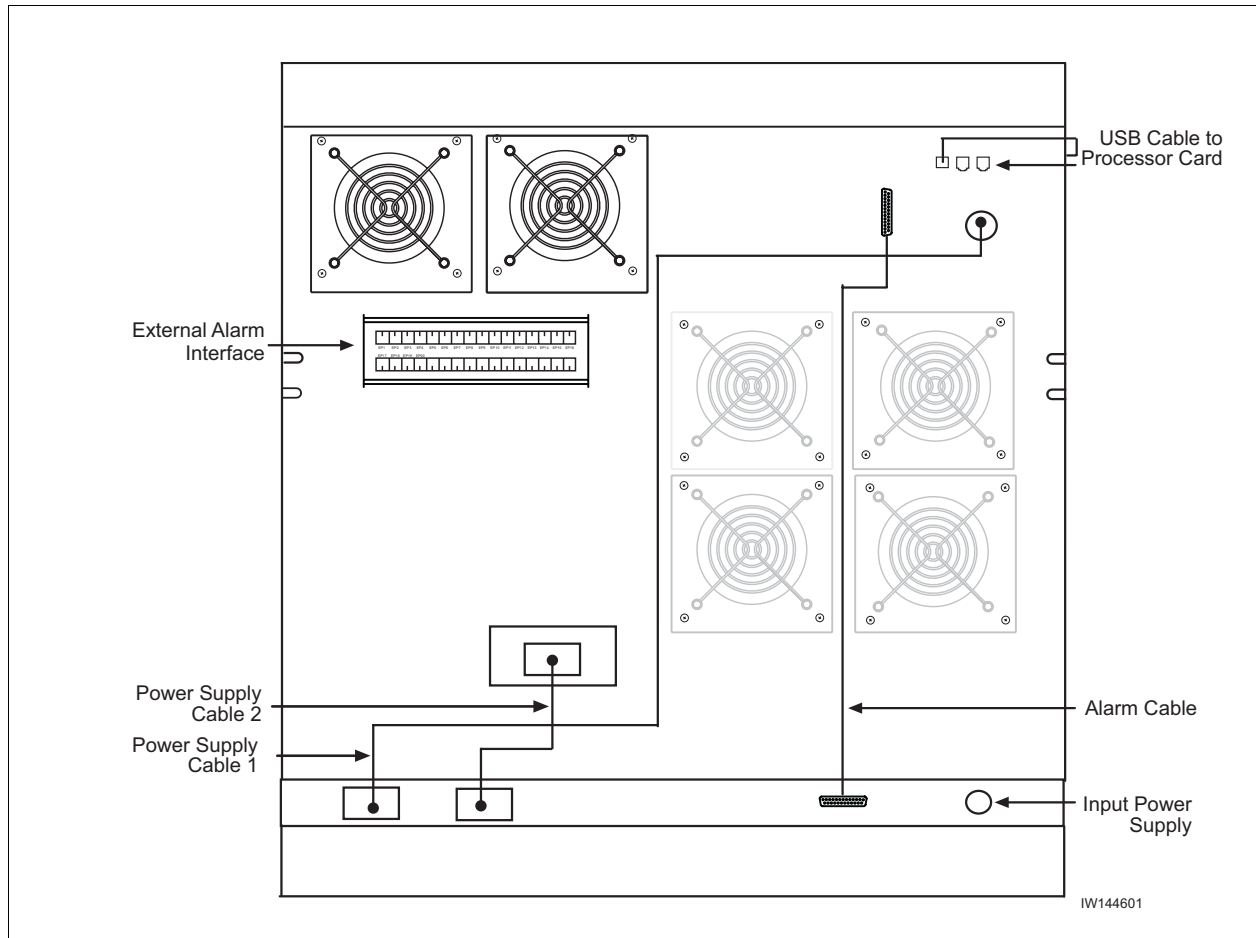

Figure 2-3: Power Cabling and Alarm Cabling
- 5 Connect the alarm cable between the power supply subrack assembly and the Micro subrack assembly. See Figure 2-3. Secure the cable by tightening the phillips screws.
- 6 Connect Power Supply Cable 1 and Power Supply Cable 2 between the power supply subrack assembly and the Micro BTS subrack assembly. See Figure 2-3. The connector to the Micro subrack assembly will snap into place, while you must tighten the round quick disconnect connector by twisting the connector housing.